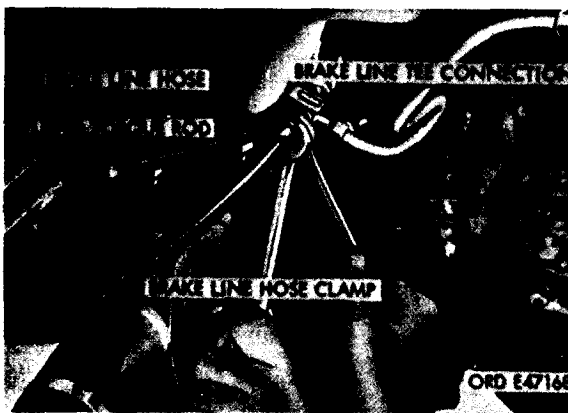
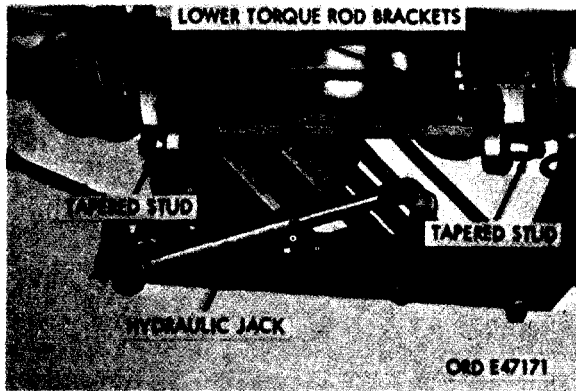

Figure 378. Disconnecting hydraulic brake line hose
Figure 381. Lower torque rods disconnected
- (2) Remove wheel and tire assemblies from both ends of axle assembly to be removed (TM 9-2320-211-20).
- (3) Unscrew connector securing brake-line hose to tee connection at frame rear suspension cross member, and remove line from tee (fig. 378). Re-
rod from bracket. Repeat above operation to remove left torque rod from bracket on underside of left end of axle housing. Refer to figure 381.
- (1) With forward rear axle supported by hydraulic jack in lowered position, push jack and axle assembly under side of truck. Raise axle on jack until front ends of rear springs are aligned with spring guide brackets on top of axle housing. Push axle toward rear of truck so that spring ends enter guide brackets.
- (2) Remove wire securing brake-line tee mounting bracket and left-rear-torque rod bracket bolt to torque rod. Remove bar securing upper torque rod in raised position. Position torque rod bracket on top of axle housing. This will secure axle in position and permit removal of hydraulic jack. Lower hydraulic jack and remove from under truck. Install the two front bolts and the right rear bolt in torque-rod bracket holes. Install clamping plate on bolts from underside of axle housing and install four lockwashers and nuts on the four bracket mounting bolts. Tighten nuts.
- (3) Insert tapered stud at front end of lower right torque rod through torque rod bracket on underside of axle housing. Install slotted nut on stud and tighten nut to 350 to 400 pound-feet torque. Install cotter pin in end of stud. Repeat above operations to connect lower left torque rod to bracket on underside of left end of axle housing. Refer to figure 381.
- (4) Connect adapter flange on rear end of transfer to-forward-rear-axle propeller shaft to companion flange at front of forward-rear axle differential (par. 262). Connect adapter flange of front end of forward-rear-axle-to-rear rear-rear-axle propeller shaft to companion flange on rear of forward-rear axle differential.
- (5) Position brake line at tee connection on frame rear suspension cross member and tighten connector. Position brake hose on upper torque rod and install two clamps. Refer to figure 378.
- (6) Bleed rear wheel brakes. Refer to TM 9-2320-211-20.
- (7) Install wheel and tire assemblies. Refer to TM 9-2320-211-20.
- (8) Lubricate axle assembly and propeller shaft universal joints. Refer to LO 9-2320-211-20.
- (9) Raise rear end of truck, remove support stand under each spring seat, and lower rear end of truck.